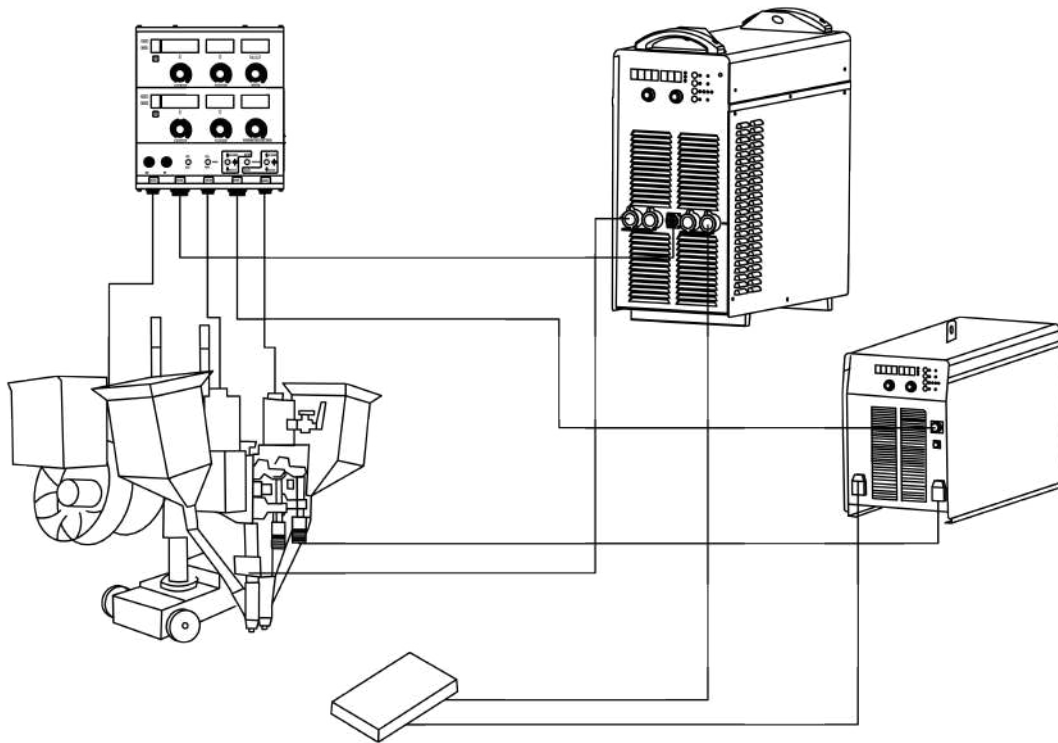

Fig. 3-6-2: Installation for SAW-Tandem
1. Complete the connection between the welding machine and the tractor according to Figure 3-6-2, and select the contact tip corresponding to the welding wire. power on.